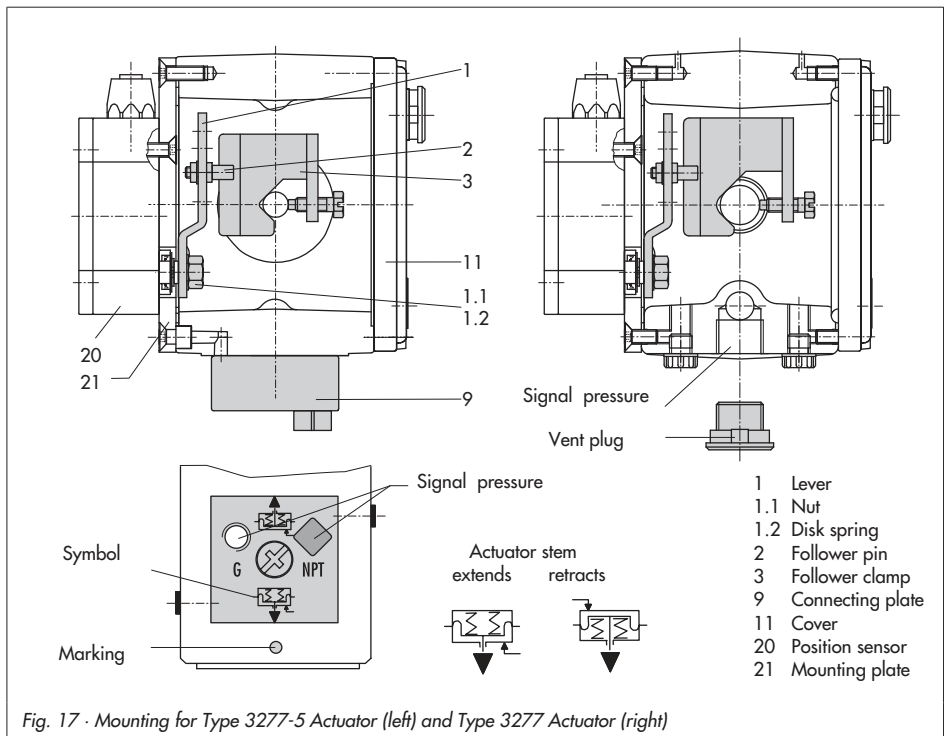

Fig. 17 · Mounting for Type 3277-5 Actuator (left) and Type 3277 Actuator (right)
The signal pressure from the positioner is routed over the signal pressure connection of the connecting plate (9, Fig. 17 left) to the actuator diaphragm chamber. To proceed, first screw the connecting plate (9) included in the accessories onto the actuator yoke.
- ▶ Turn the connecting plate (9) so that the correct symbol for the fail-safe position "Actuator stem extends" or "Actuator stem retracts" is aligned with the marking (Fig. 17, below).
- ▶ Make sure that the gasket for the connecting plate (9) is correctly inserted.